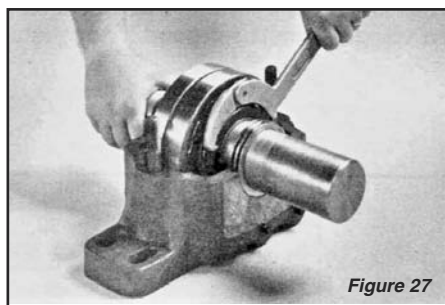

Figure 27
8. The preferred method of tightening for easy installation and for not damaging the bearing is illustrated in figures 27 and 28. Using a Spanner wrench, tighten the locknut until snug. Hold the adapter sleeve from turning until firmly seated. Using a soft steel bar and a hammer, drive against the face of the locknut as shown to relieve the thread pressure. Retighten the locknut and repeat until the correct adjustment specified in Step 7 is obtained. Where space limitations prohibit the above method, use a heavy-duty spanner wrench and stroke on its handle with a hammer so as to tighten the unit. This is more difficult and requires care to avoid damaging the lock washer, locknut and machined housing surfaces. With large units a combination of both methods can be successfully used.